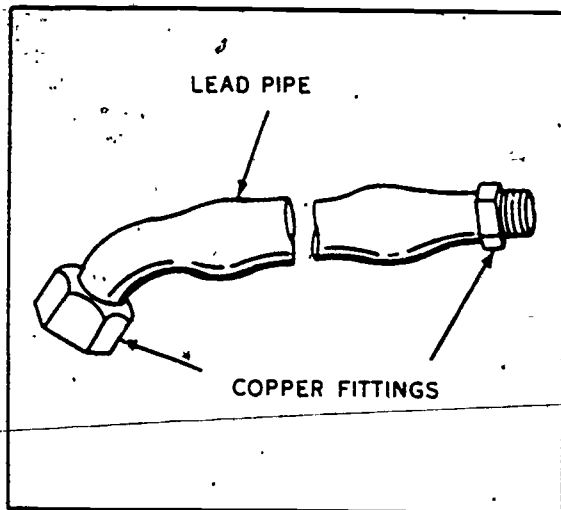

Figure 1-22. Flexible gooseneck connector.
**Copper or lead connectors.** Flexible connectors, sometimes called goosenecks, as illustrated in figure 1-22, are available for use when galvanized iron or steel pipe is used for the supply line. The connector consists of a length of lead or copper pipe which has fittings wiped or soldered on each end for connecting to the corporation stop and supply piping.